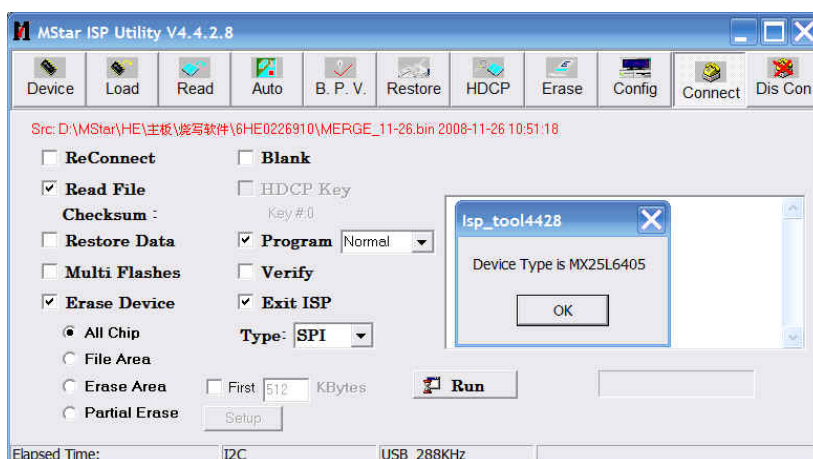

Fig. 3 Device MX25L64 successful connection
3) Press menu “Connect”, dialog box “Device Type is MX25L64” (device type depending on parts used on board actually) will display to show successful connection; please refer to Fig. 3;